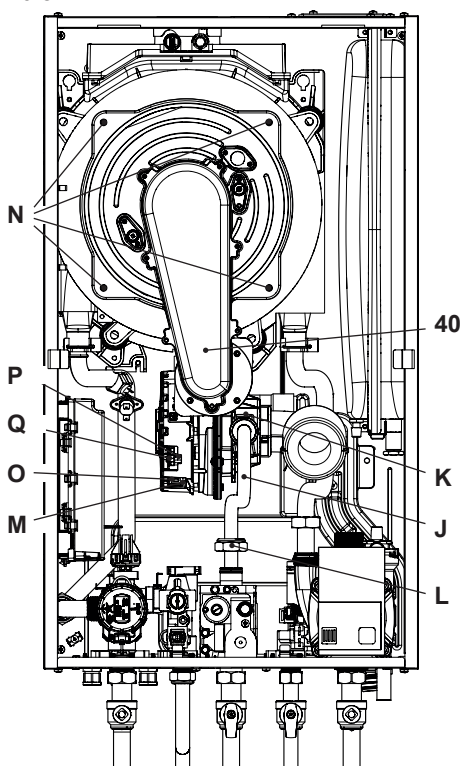

Fig. 10.8
Removing the fan burner unit 40 in Fig. 10.8.
- Insert a flat screwdriver in the connector recess **M** and lever towards the bottom, disconnect the connector at the same time **O** by pulling towards the front **O** (Fig. 10.8).
bottom part of the connector (Fig. 10.8).
- Unscrew screws **N** and remove the fan burner unit 40 (Fig. 10.8)